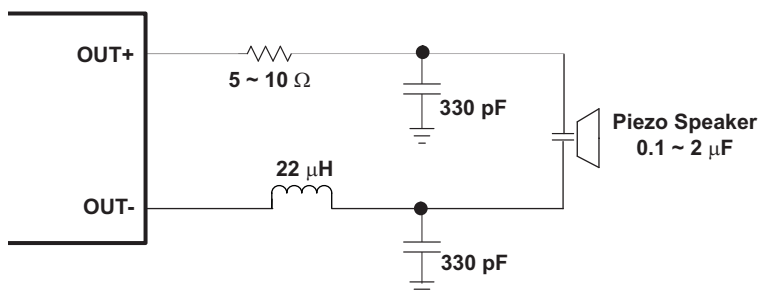
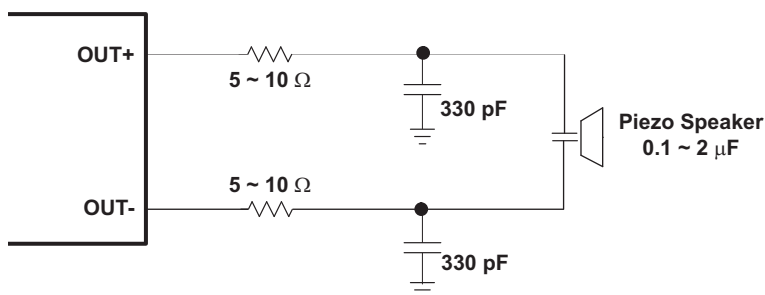
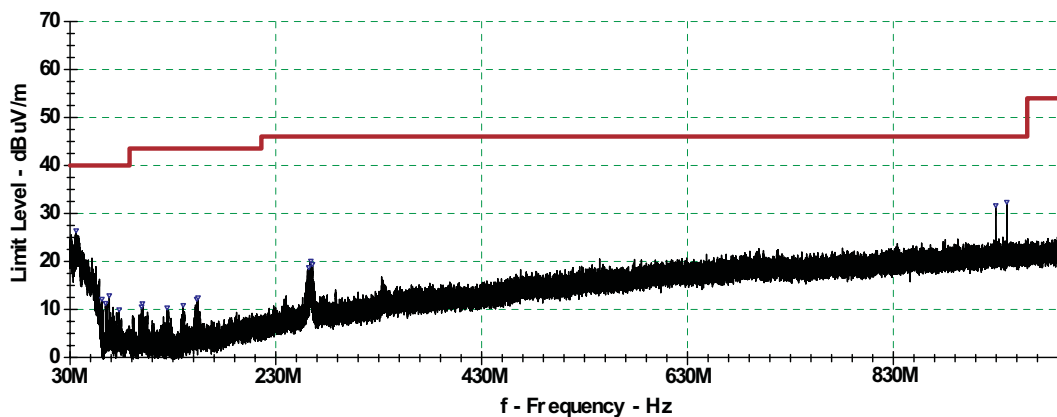

Figure 19. Typical Radiated Emissions Suppression Circuit (Resistor-Speaker-Inductor Load)
Figure 20. Typical Radiated Emissions Suppression Circuit (Resistor-Speaker-Resistor Load)
Figure 21. Measured Radiated Emissions – Vertical Front
A ferrite bead filter is not required for operation with the resistor – speaker – resistor load configuration or with the resistor – speaker – inductor load configuration. In order to achieve low radiated emissions, the resistor and/or inductor should be placed within 1 cm of the output of the amplifier and followed with a 100 pF to 1000 pF capacitor to GND. Figure 19 and Figure 20 show typical load configurations to reduce radiated emissions.
Figure 21 shows the EMC performance of Figure 19 using a 1 μF load to simulate the speaker. Table 3 list the measurement conditions. The worst-case quasi-peak margin is 14.4 dB at 55.9 MHz.
**Table 3. Measurement Conditions for Radiated Emissions of Figure 21**